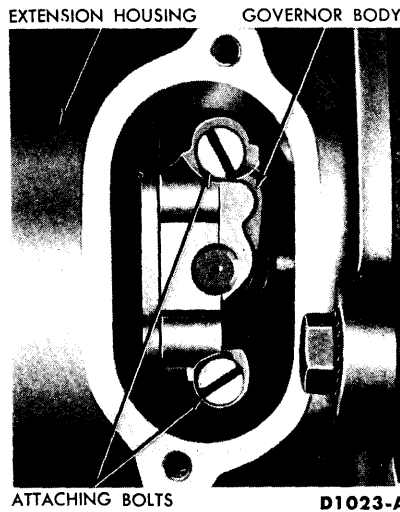

FIG. 15—Governor In Extension Housing
3. Rotate the drive shaft until the governor is in line with the inspection hole (Fig. 15).